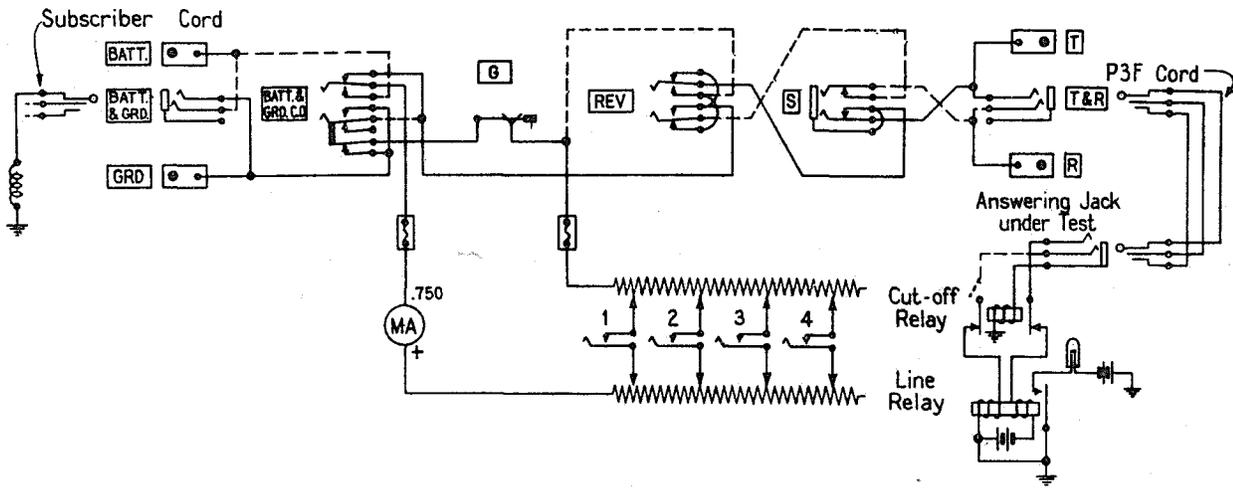

Fig. 2 - Line Relay - Battery on Tip, Ring Open.
3.05 For prepayment coin lines and P.B.X. trunks with battery on the tip and with the ring open, the REV key should be operated and switch G should be closed. Connect an idle subscriber cord to the TEST BATT & GRD jack of the test set. See Fig. 2.